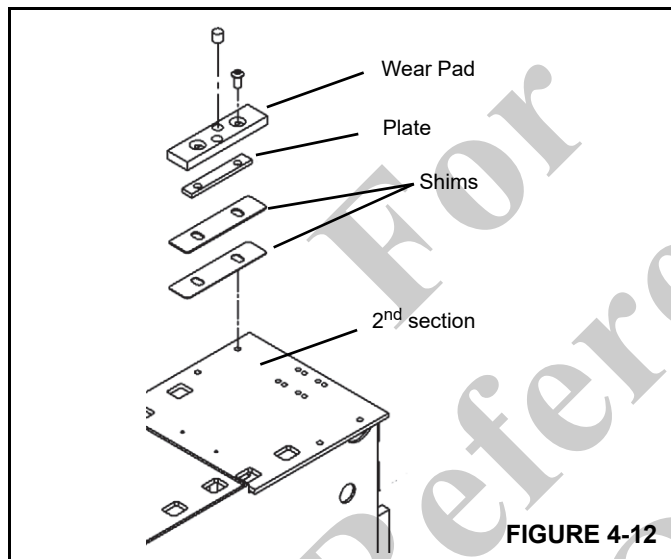

FIGURE 4-12
13. On the base end of the 2nd section install the upper wear pad and plate (Figure 4-12).